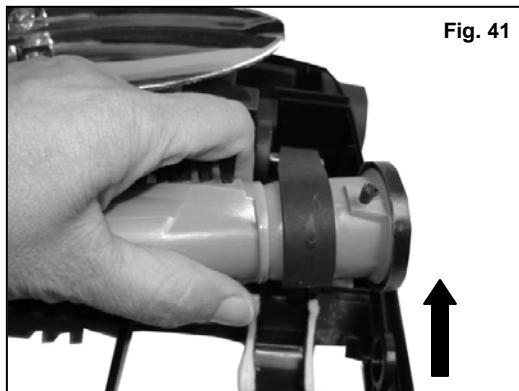

Fig. 41
9. Lift up the end of the agitator brush and remove the old belt from the agitator pulley. (Fig. 41)